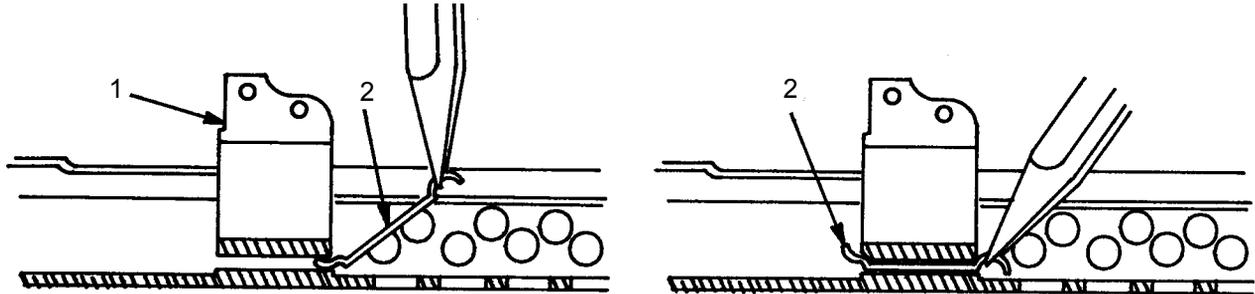

Figure 13. Installation of Gas Cylinder Retaining Spring.
- Grab hooked end of new replacement gas cylinder retaining spring (Figure 13, Item 2) with needle-nose pliers and install in lower left hole of the receiver block (Figure 13, Item 1) until tang of spring is exposed at the rear of the block.